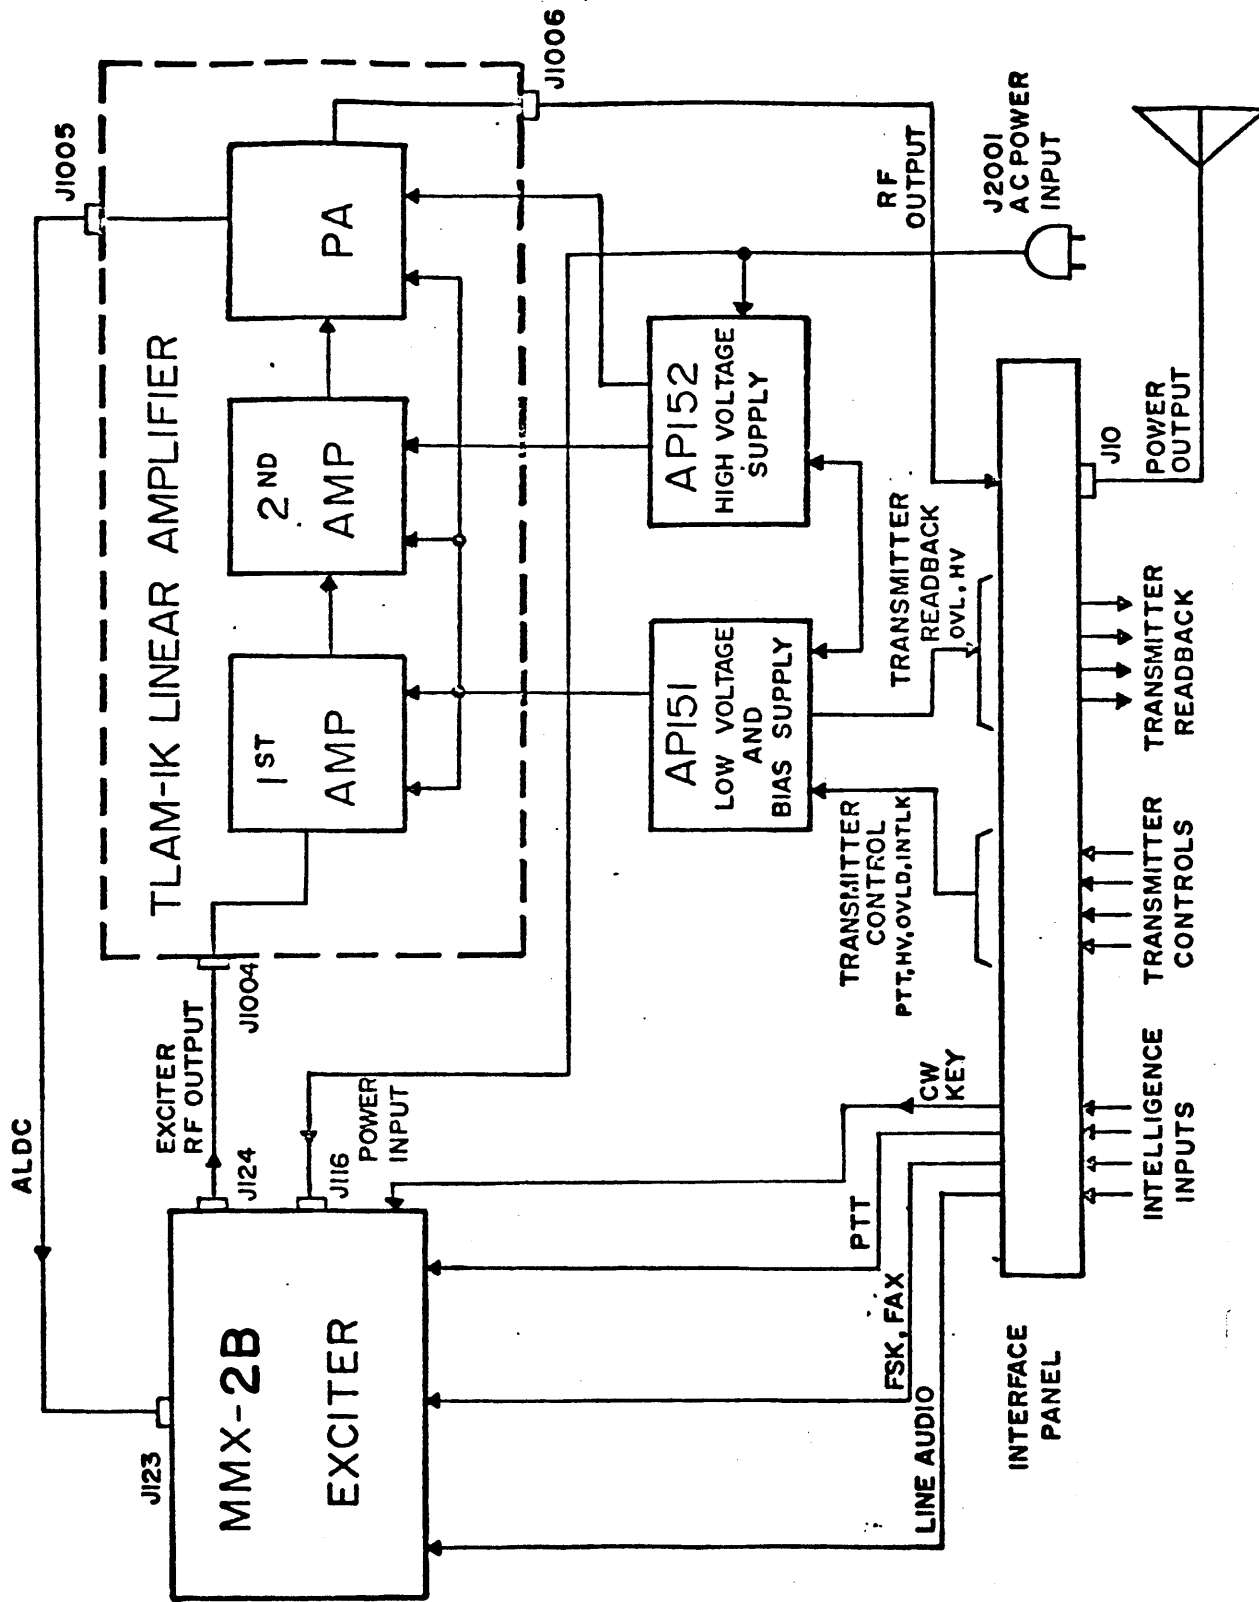

Figure 4-1. HFTM-1KJ2B Overall Block Diagram
Figure 4-1 is an overall block diagram of the HFTM-1KJ2B transmitter. Power input of 115/230 vac, 50/60 hz is applied via J2001 to the AP152 high voltage power supply and to the MMX-2B exciter.
- a. Overall block diagram (Section 4, figure 4-1)